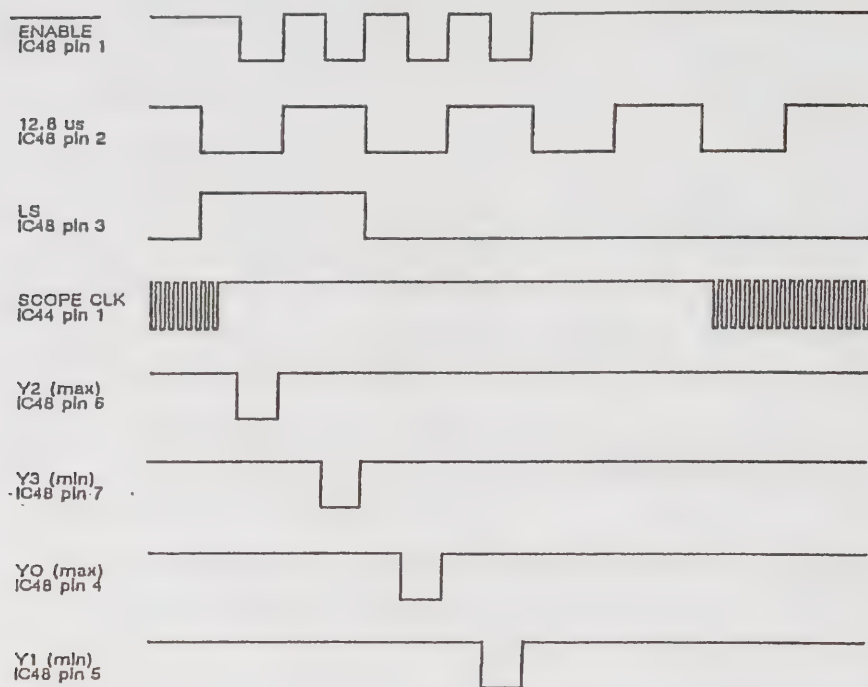

Fig. 5-2 Board AB2/2 display counters timing
- (15) With an input connected to the AF INPUT socket, check the operation of decoder IC48a as shown in Fig. 5-2.
- (16) Set the input to 10 kHz and select a slow timebase. Trigger an oscilloscope from the falling edge of the Y1 pulse on IC48 pin 5 and display the SCOPE VIDEO signal on TP6. Check that the signal starts high, goes low and then returns high, all within the line scan period of 64 μ s.
- (17) Vary the amplitude of the input and check that the duration of the low period increases and decreases with amplitude.